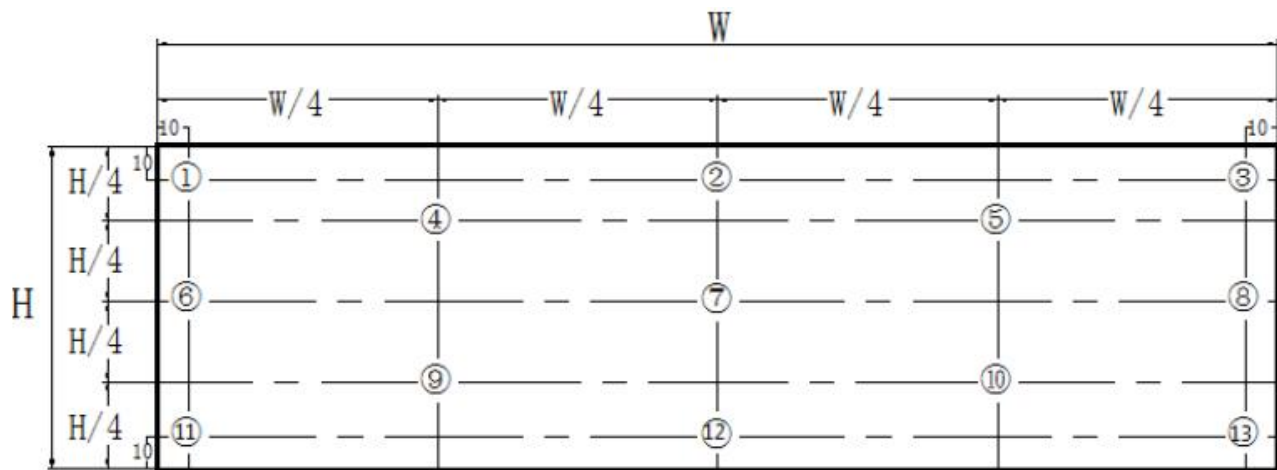

Figure 9. Uniformity Measurement Locations (13 points)
- The White luminance uniformity on LCD surface is then expressed as : $\Delta Y = \text{Minimum Luminance of 5(or 13) points} / \text{Maximum Luminance of 5(or 13) points.}$ (see Figure 8 and Figure 9).
The White luminance uniformity on LCD surface is then expressed as : $\Delta Y5$ = Minimum Luminance of five points / Maximum Luminance of five points (see Figure 8) , $\Delta Y13$ = Minimum Luminance of 13 points / Maximum Luminance of 13 points (see Figure 9).